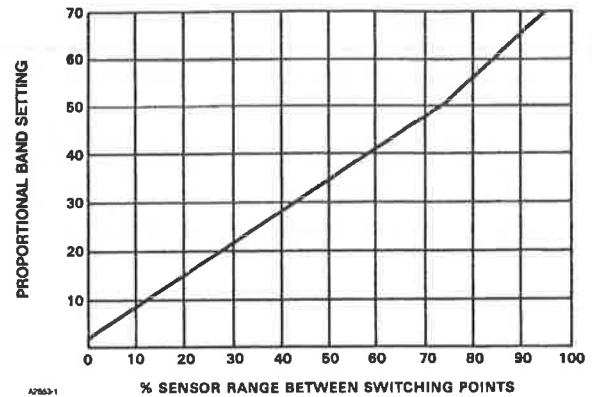

Figure 5-2. Curve for Determining Proportional Band Setting
Figure 5-2 shows the relationship between the percent of sensor range between switching points and the proportional band setting on the controller. The following example illustrates how to use figure 5-2.
- Locate the 50 percent line on figure 5-2. Move along this line until you intersect the curve. Read the proportional band setting on the left hand axis. For this example, the setting is approximately 35 percent.
- Using the curve in figure 5-2 determine the correct proportional band setting for the desired gap (expressed as a percent of the input span) between the switching points.
● Locate the 50 percent line on figure 5-2. Move along this line until you intersect the curve. Read the proportional band setting on the left hand axis. For this example, the setting is approximately 35 percent.
1. Using the curve in figure 5-2 determine the correct proportional band setting for the desired gap (expressed as a percent of the maximum input element span) between the switching points.